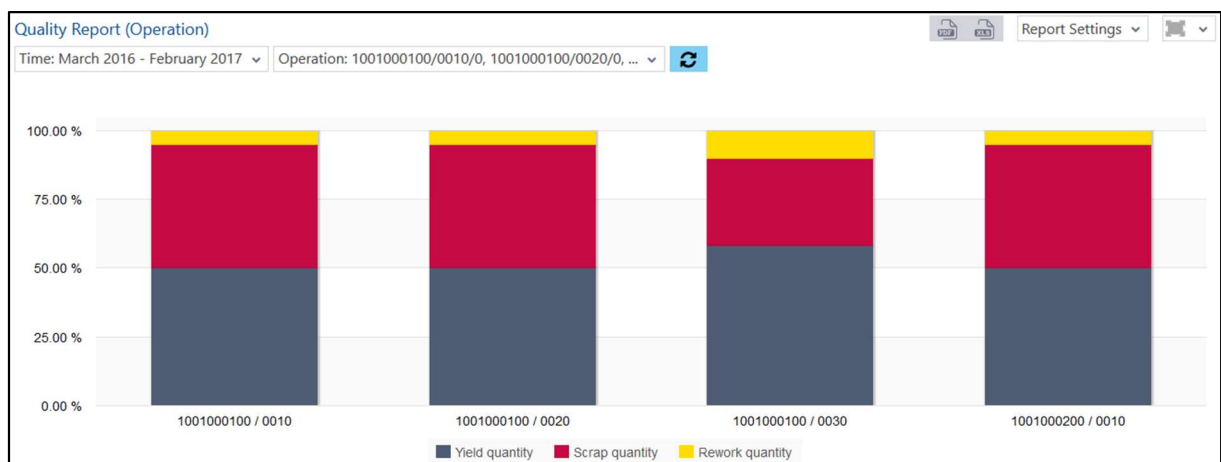

Fig. 117: Quality Report (Operation) as a column chart
- Quality Report (Operation) as a column chart (Fig. 117):